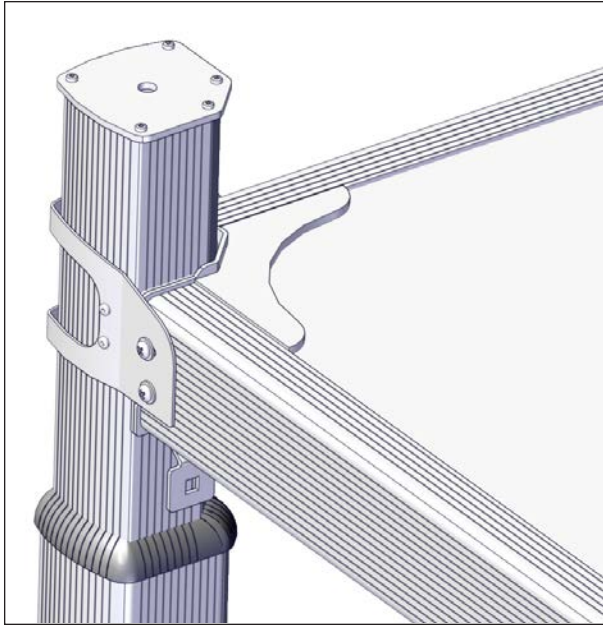

FIGURE 65: SLEEVE INSTALLATION CHECKING
28. Check the installation of the brackets by trying to lift each sleeve. Review previous steps for any broken screws or to retighten screws if the sleeve keeps moving see Figure 65.